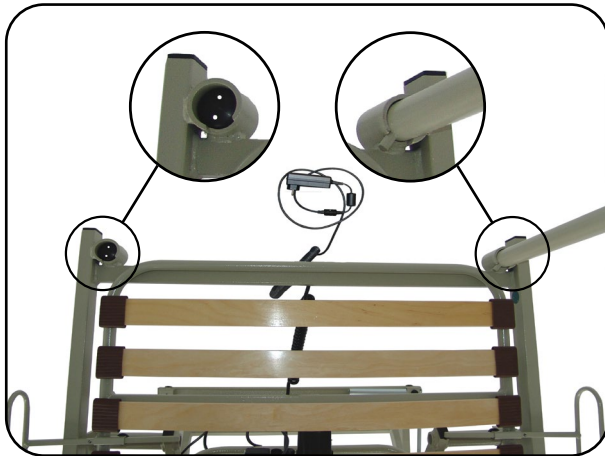

Fig. 6.3.01 - Lifting device mounts for lifting device and transport lock
2. Insert the uplifter into one of the head end receptacles on either the left or right (Fig. 6.3.01). Ensure that the pin of the uplifter is completely inserted in the notching of the uplifter mounting.